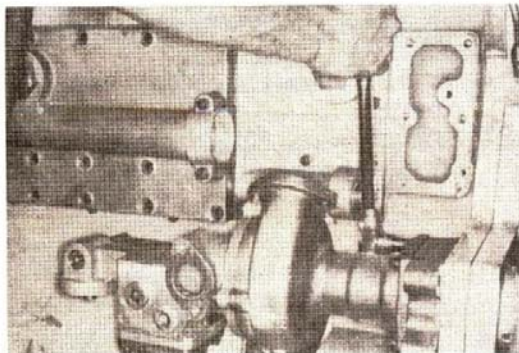

Fig. 14-92. Tighten the water pump capscrews
3. Install and tighten the capscrews and stud nut alternately and evenly to 30 to 35 ft-lbs (41 to 47 Nom) torque. Fig. 14-92.